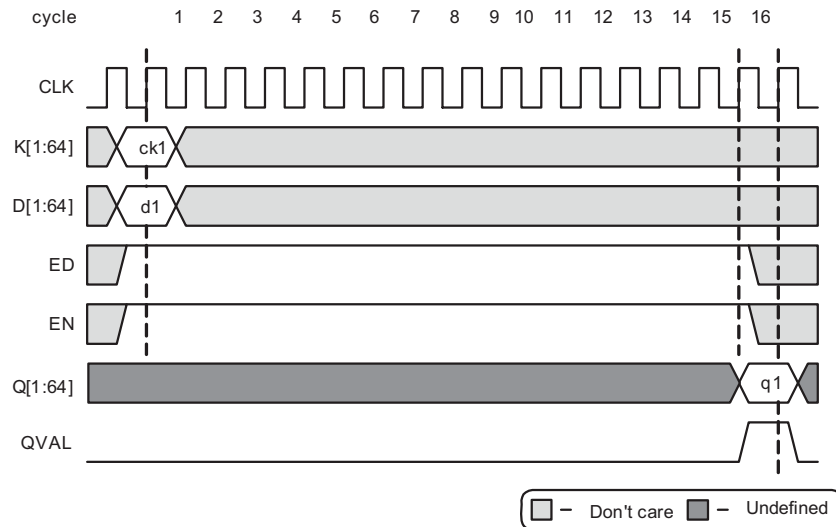

Figure 3-2 · Example Encryption Sequence
1. $K[1:64]$ is set to the cipher key (ck1 in Figure 3-2) to encrypt the data.
2. $D[1:64]$ is set to the plaintext data (d1 in Figure 3-2) to be encrypted.
After 16 clock cycles of the EN input being held continuously at a logic '1' value, the QVAL signal transitions from logic '0' to logic '1' and remains valid for one clock cycle, indicating that valid ciphered (encrypted) data (shown as q1 in Figure 3-2) is available on the Q[1:64] outputs.